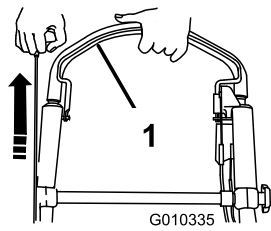

Figure 24
3. Pull and hold the blade-control bar to the handle and pull the recoil-start handle (Figure 24).